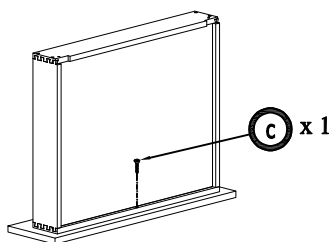

Figure 5
4. Assemble screw 1" into drawer back with drawer side and drawer front with drawer side (Figure 5)
5. Assemble the screw 1" from drawer box front with drawer front into the free hole in the drawer front (Figure 5)